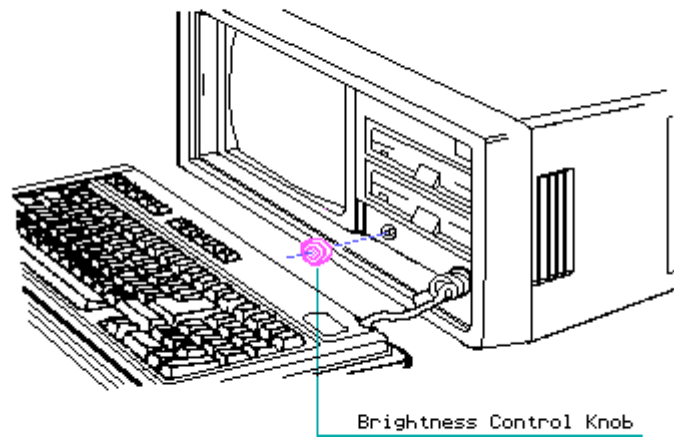

Figure 7-12. Removing the Brightness Control Knob
2. Remove the brightness control knob by gently pulling it from the front bezel (Figure 7-12).